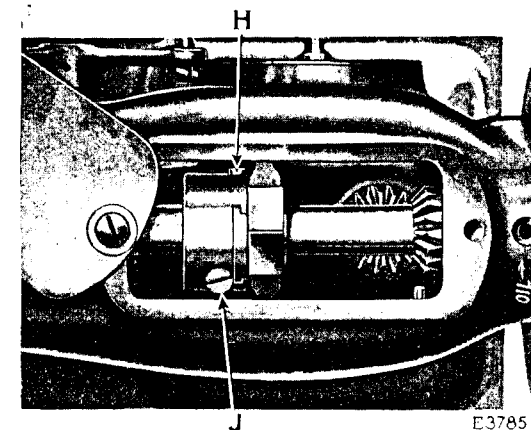

FIG. 11. ADJUSTMENT FOR REGULATING AMOUNT OF TRAVEL OF NEEDLE BAR
Swing back the cover plate at the top of the machine and loosen the screw (H, Fig. 11) in the needle bar driving eccentric on the arm shaft. To increase the throw or amount of travel of the needle bar for a longer stitch, turn the large screw (J, Fig. 11) on the needle bar driving eccentric over to the left or upwardly. To decrease the throw of the needle bar for a shorter stitch, turn the large screw (J) over to the right or downwardly. When the required throw of the needle bar is obtained, firmly tighten the screw (H).